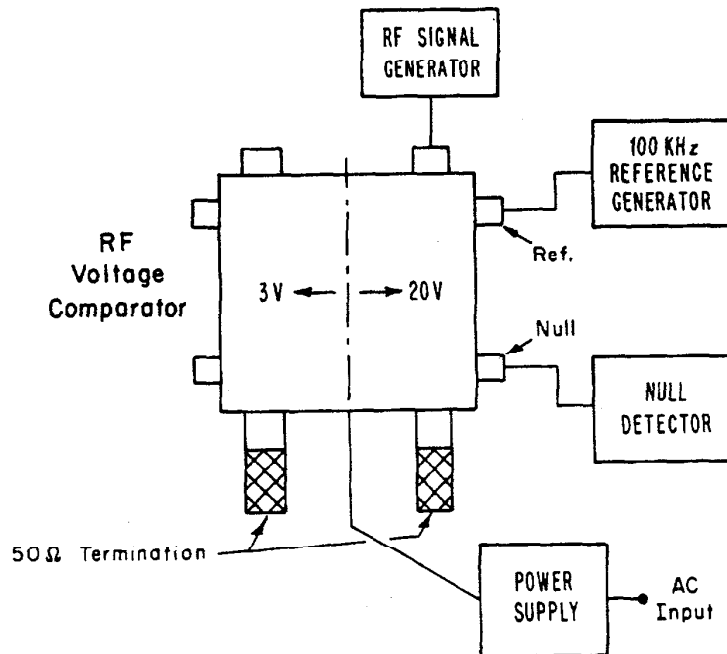

Figure 8. Block Diagram for Calibration of
- b. Connect the equipment as shown in figure 8.